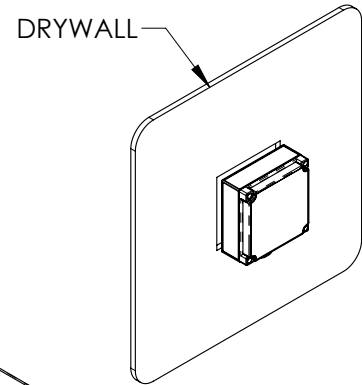

FIGURE 1
2. Mark and cut out section of drywall allowing approximately ½" clearance around the SES320 enclosure. (See Figure 1)